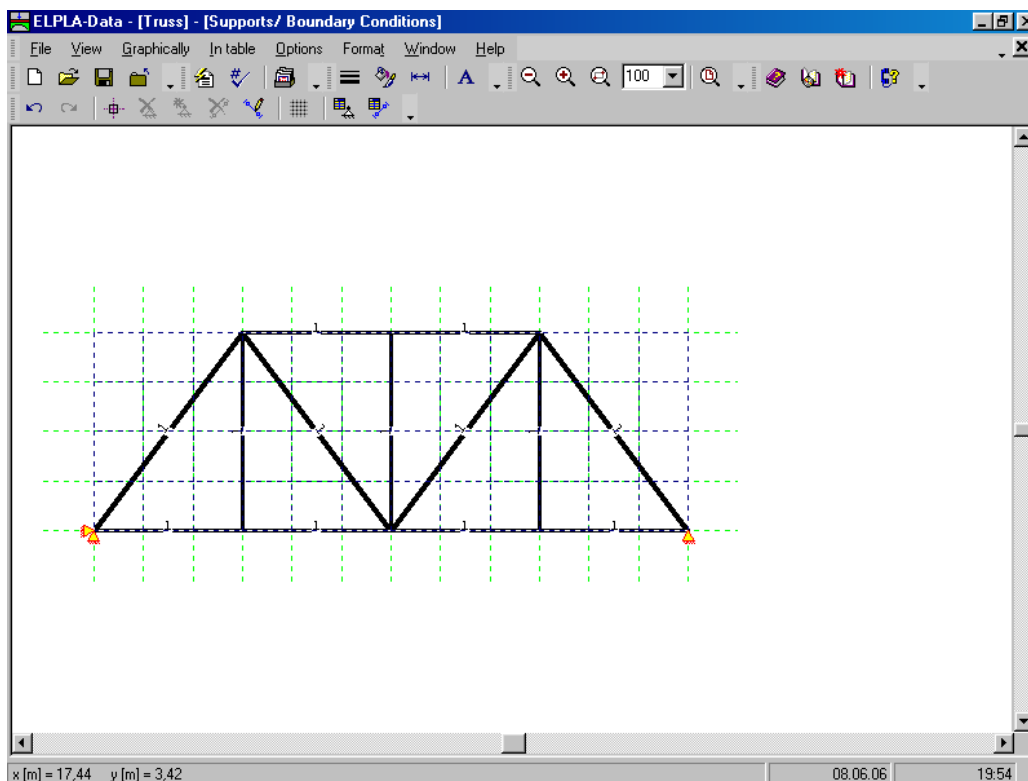

Figure 6-23 Supports on the screen
After you have completed the definition of supports, the screen should look like the following Figure 6-23.
- Choose "Save supports/ boundary conditions" command from "File" menu in Figure 6-23 to save the data of supports
- Choose "Close supports/ boundary conditions" command from "File" menu in Figure 6-23 to close the "Supports/ Boundary conditions" embedded program and to return to the main window of *ELPLA-Data*